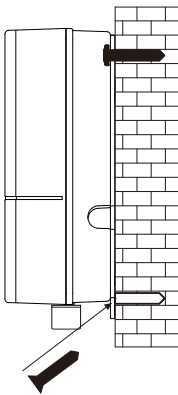
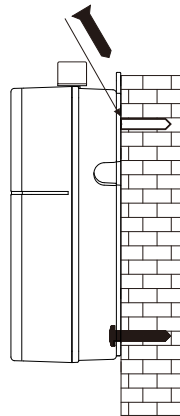

Figure 10
Figure 11
Step 6: Hang the device on the screw in the wall and secure it with another screw. (Figure 10) (Figure 11)